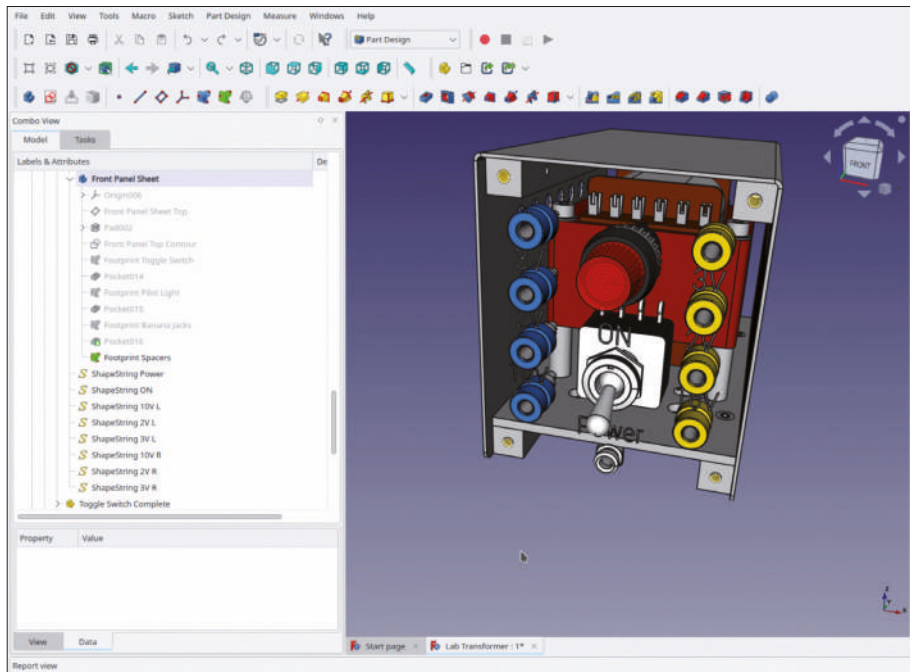

Figure 9-158
22. In 'Front Panel Complete', activate the body 'Front Panel Sheet'. Delete the last design state ('Hole005'), which represents the creation of the mounting holes. This reveals the SubShapeBinder which was contained in the tip (Figure 9-158).